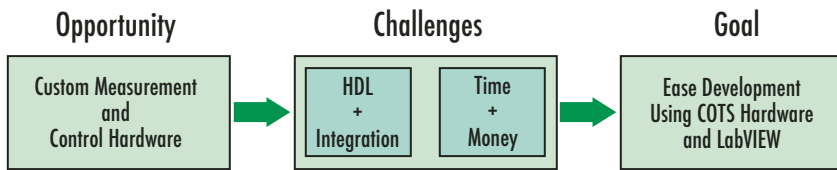

Figure 2 – Using NI LabVIEW saves time and money by eliminating HDL coding complexity and providing an easy-to-use GUI interface.
you don't need to generate your own customized API. With NI LabVIEW and RIO hardware, you can rapidly define custom control logic and I/O lines in a LabVIEW program – called a virtual instrument (VI) – without prior knowledge of low-level development tools. Simply draw your hardware design in LabVIEW and the tool chain synthesizes the gates directly into the Xilinx FPGA (Figure 2).